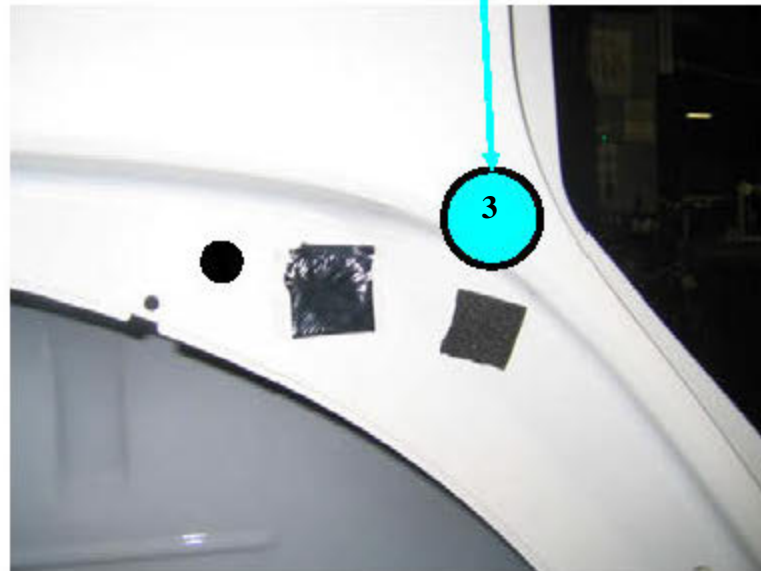

Figure 45
- Cut the BLACK 30 x 75 foam from the foam kit (68026937AB) in half and apply over this hole (Figure 45)